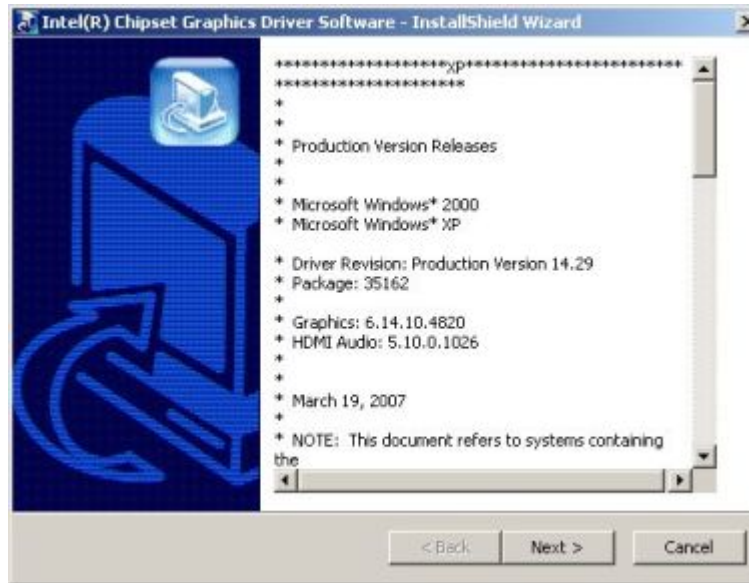

Figure 7-13: GMA Driver Readme File
Step 8: The Readme information file shown in **Figure 7-13** appears.